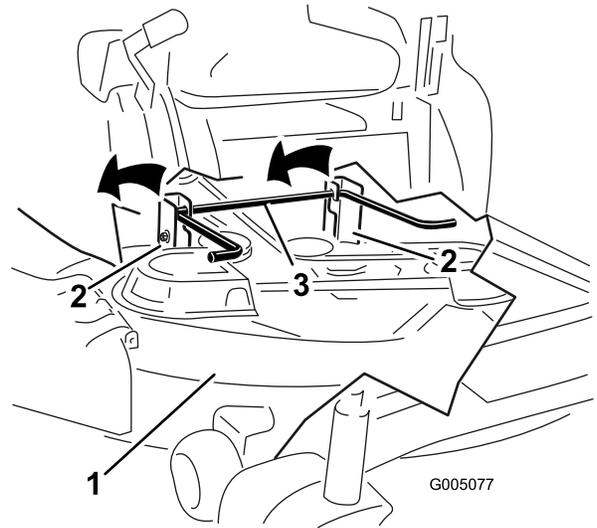

Figure 59
5. Lift the rear of the mower deck and guide the hanger brackets over the rear lift rod (Figure 59).